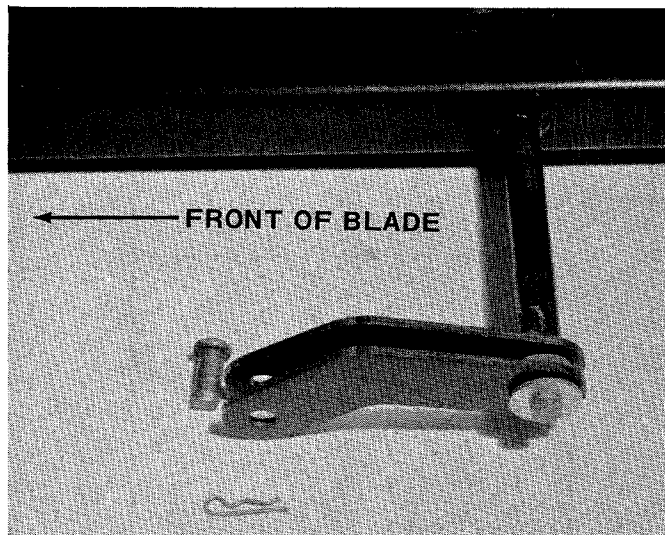

FIGURE 6
Lift brackets must face forward as shown in figure 6.
- C. Next place spacer (31), another lift bracket (23) Flat washer (30), lockwasher (29) and secure with hex screw (28). See figure 6.